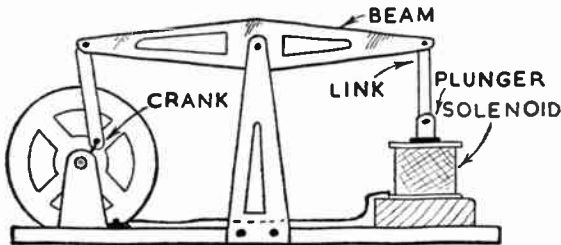

Fig. 2—Side view of the engine
The beam is cut to the shape shown in Fig. 2 and is about 6ins. long. It should be made from $\frac{1}{2}$ in. thick wood so that a vertical saw-cut is possible at each end, where the connecting links will be pivoted, as shown at (A) in Fig. 3. These links should be cut from thin metal and have a small hole drilled near each end.